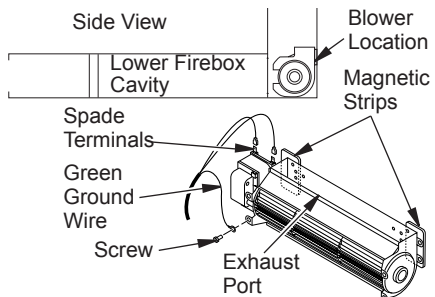

Figure 26 - Blower Model BK
1. Attach the power cord to the blower motor by firmly pushing the two female terminals at the end of the power cord onto the two spade terminals on the blower motor (see Figure 26).
2. Attach green ground wire from power cord to blower housing using screw provided (see Figure 26). Tighten screws securely.
- Place the blower against the lower rear wall of the firebox outer wrapper with the exhaust port directed upward. The blower will fit inside the back opening and be held in position against the back wall by the magnets (see Figure 26, page 17).